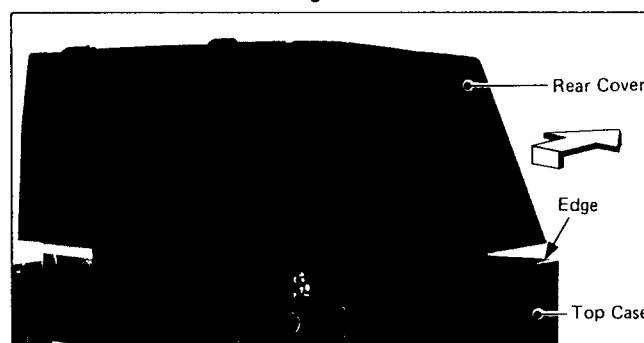
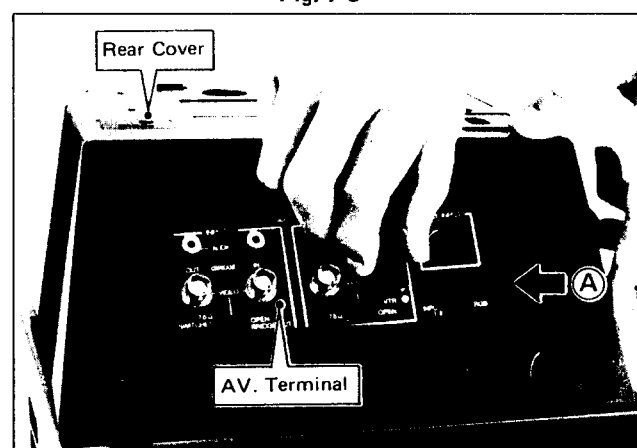

Fig. 7-2
Fig. 7-4
2. Slightly lift the rear cover and place it over the top case edge. (Fig. 7-2)
Keep the rear cover put as shown in Fig. 7-2, and then reinstall the AV terminal ass'y on section (A) shown in Fig. 7-4.